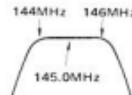

Fig. 15 Sweep Waveform
- (1) Set the unit ready for reception, and turn the Aux switch at ON (unused channel).
- (2) Connect the sweep generator to the antenna terminal, and the detector to TP1.
- (3) Increase the vertical gain of the oscilloscope to the maximum, and adjust the sweep generator frequency and output level so that an appropriate waveform can be obtained.
- (4) Repeatedly adjust TC1, TC2 and L1 until a waveform, such as shown in Fig. 15, is obtained.